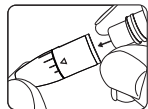

Figure 22
**STEP 1:** Remove the cap of the lancing device by twisting it off. See Figure 22.